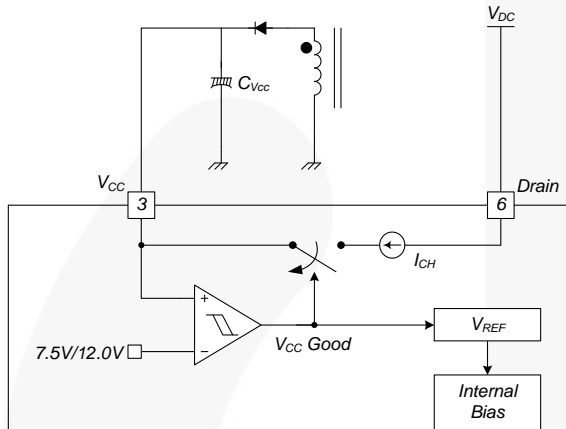

Figure 17. Startup Block
1. Startup: At startup, an internal high-voltage current source supplies the internal bias and charges the external capacitor (C_{VCC}) connected to the V_{CC} pin, as illustrated in Figure 17. When V_{CC} reaches 12V, the FSL138MRT begins switching and the internal high-voltage current source is disabled. Normal switching operation continues and the power is supplied from the auxiliary transformer winding unless V_{CC} goes below the stop voltage of 7.5V.